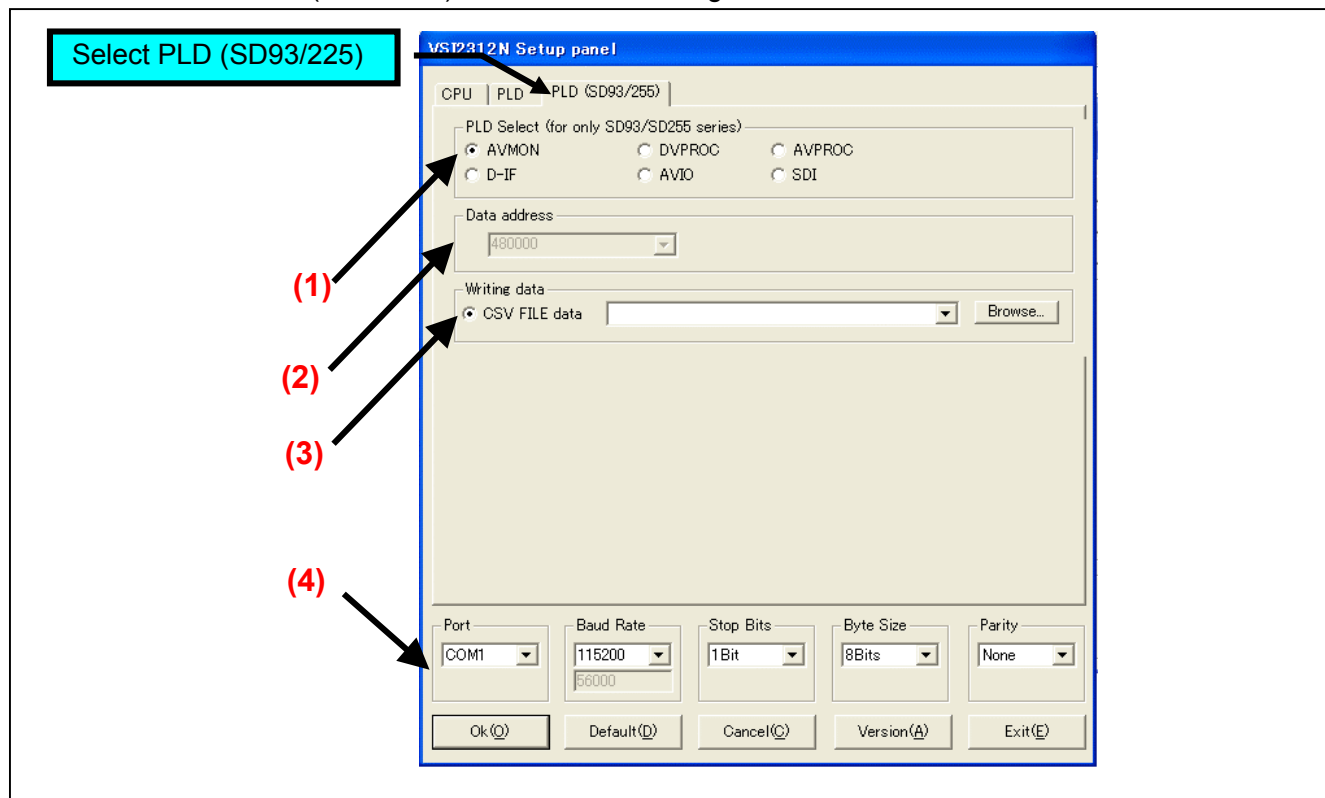

Figure 12-2D-1
4. Select the PLD (SD93/255) sheet as shown in figure 12-2D-1.